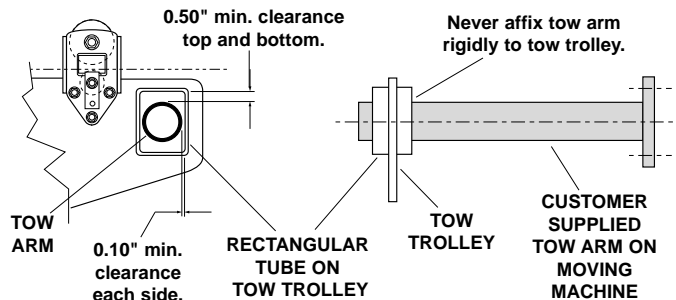

**FIGURE 6–END CLAMP & THRUST BAR**
3. Position **END CLAMP** beneath I-beam. Mark mounting hole locations and drill through beam flange. Secure with Grade 5 bolts or better. (Fig 6).
4. Weld thrust bar to underside of I-beam (Fig. 6). Bar must be snug against End Clamp to absorb impact forces.